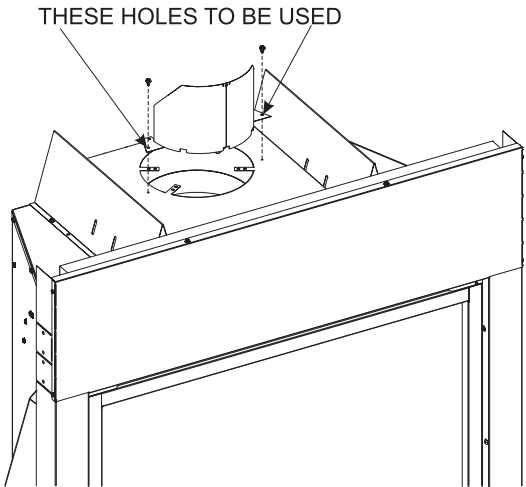

Figure 41 (vent pipe removed for clarity)
2. Attach to insulation box as shown in **Figure 41**.